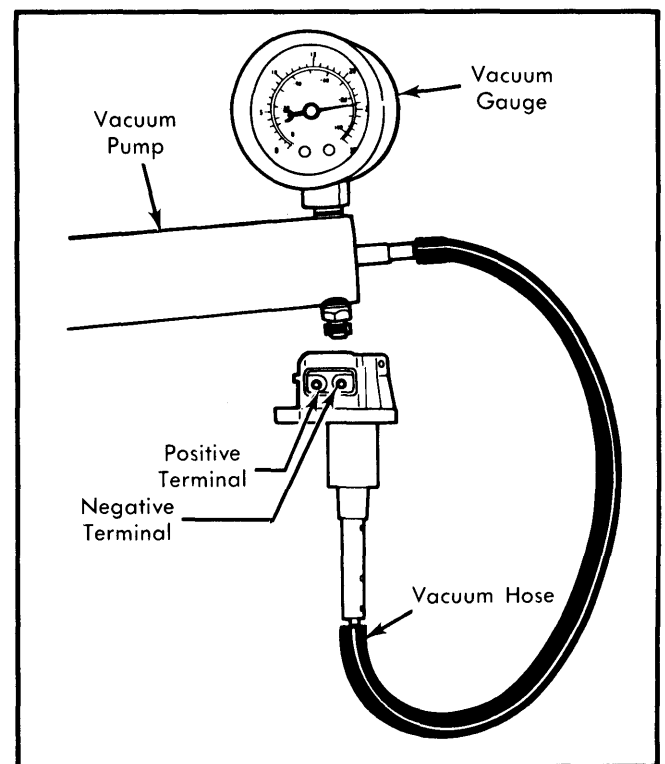

Fig. 13 Testing Mixture Control Solenoid (Disassembled From Carburetor)
- Test mixture control solenoid for sticking, binding or leaking. Connect jumper wire between battery positive terminal and right (positive) solenoid terminal. Connect another jumper wire between battery negative terminal and left (negative) solenoid terminal. Remove rubber seal and retainer from solenoid stem and attach hand vacuum pump and gauge. See Fig. 13. Apply 25 in. Hg of vacuum. Time leak-down rate from 20 in. Hg to 15 in. Hg. If vacuum drops more than 5" in 5 seconds, replace mixture control solenoid. Remove jumper wires. Apply 15 in. Hg of vacuum. Vacuum should drop to zero in less than 1 second. If not, replace solenoid.